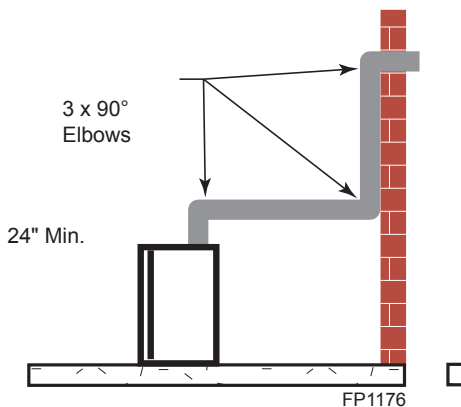

**Figure 14 -**
- The maximum number of 90° elbows per side wall installation is three (3). *Figure 14*